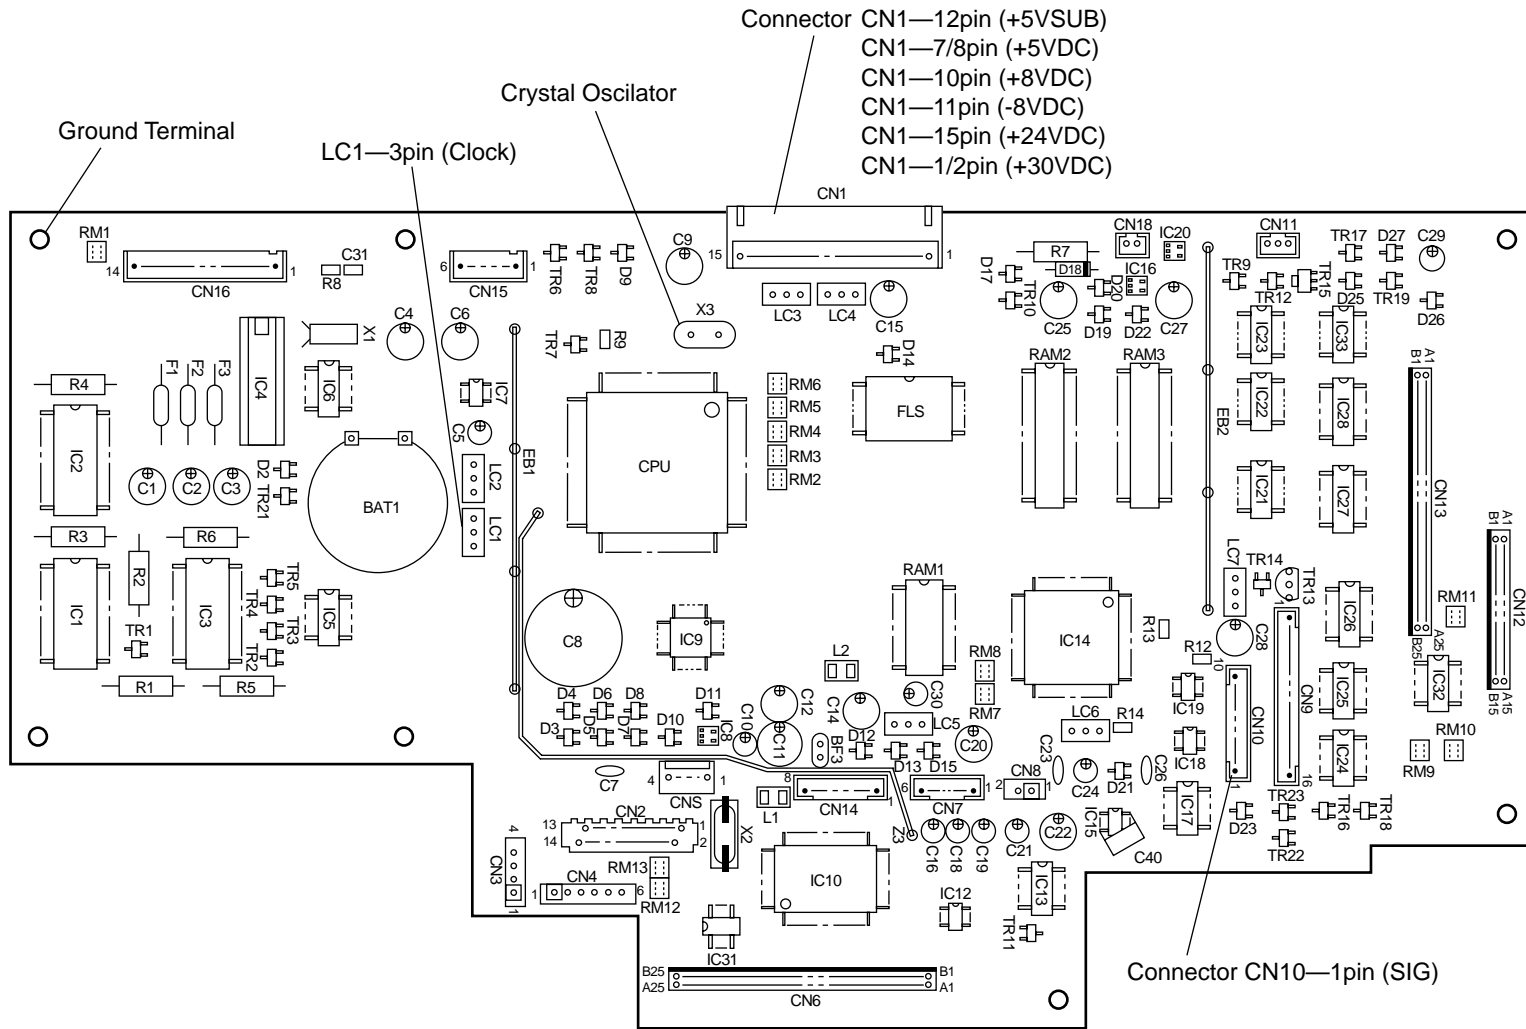

Figure 5.1 Measurement Points on M60 Board
- 4) Connect the frequency counter (for clock frequency), digital voltmeter (for power voltage) and Oscilloscope (for SIG signal). See Figure 5.1.